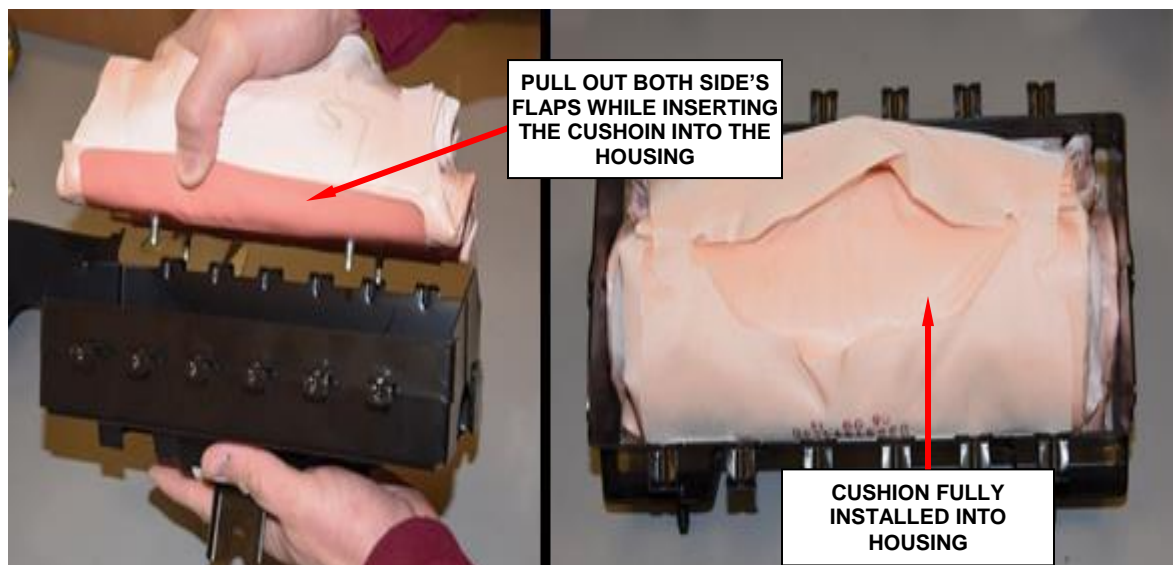

Figure 119 - Side Flaps Must Be Held Out
- j. Insert the cushion, pulling out both side flaps (Figure 119).